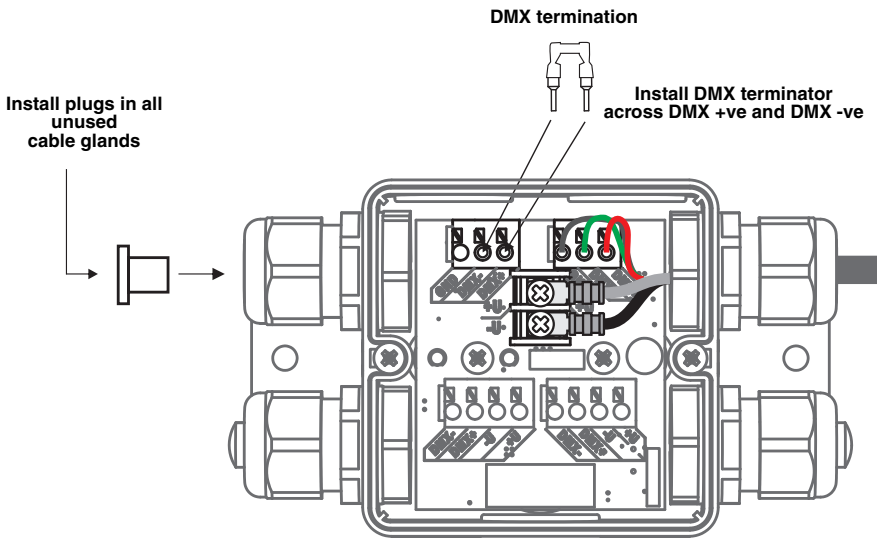

Figure 23: Terminating hybrid link in Splitter
6. If you are not going to extend the hybrid link from the Splitter to another Splitter, see Figure 23:
- Install the supplied DMX terminator in the unused DMX data terminals as shown in Figure 23 so that it bridges the **DMX+** and **DMX-** terminals.
- Install the supplied DMX terminator in the unused DMX data terminals as shown in Figure 23 so that it bridges the **DMX+** and **DMX+** terminals.